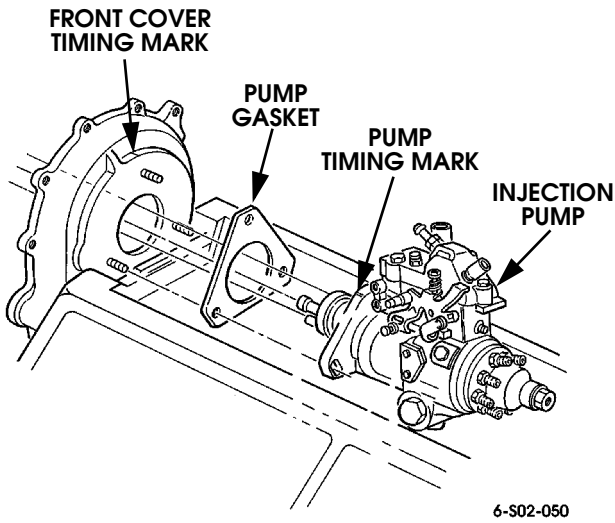

Figure 2-194: Injection Pump Installation (Non-Turbo Shown)
3. Mount injection pump on front cover studs (Figure 2-194). Install retaining nuts finger tighten.